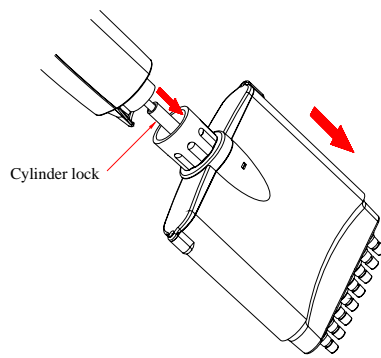

Figure 12: Push the cylinder lock downward until you hear a click sound.
3. Pull the lower part downward slowly until the cylinder lock appears as shown in Figure 12.